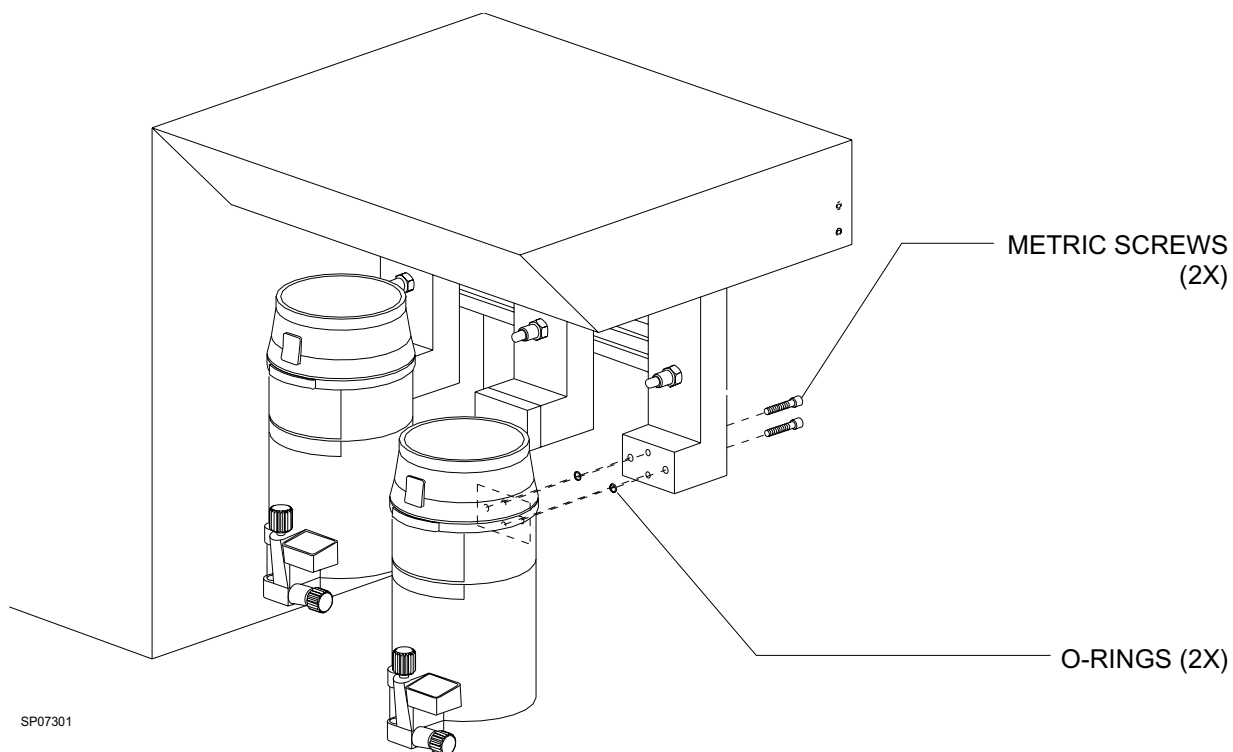

Figure 1: VAPORIZER MOUNTING ARRANGEMENT (FUNNEL FILL TYPE ILLUSTRATED)
5. Carefully attach the vaporizer to the mount with two 4 x 30 metric screws (P/N HW01072) and tighten the screws. See Figure 1.